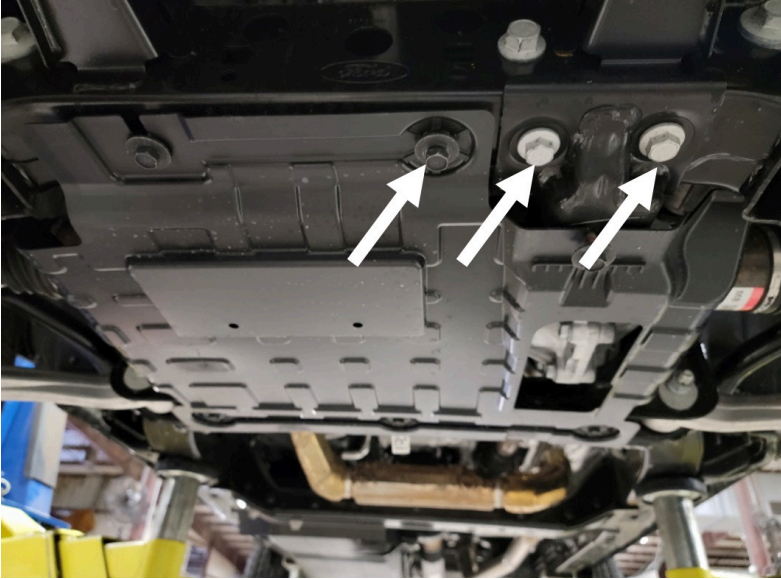

Figure 3
3. Use a 15mm and 18mm socket to remove the 3 bolts on the lower frame and dif mount respectively. Figure 3.